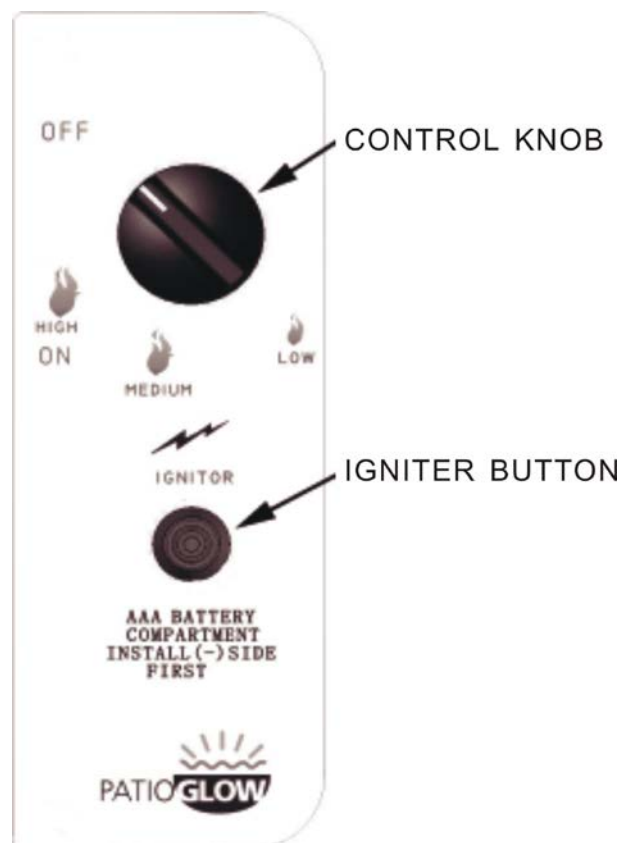

Figure 13
1. Open the tank drawer and find the control panel on the left. Make sure the control knob is in the "OFF" position. See Figure 13. Open the tank valve all the way.